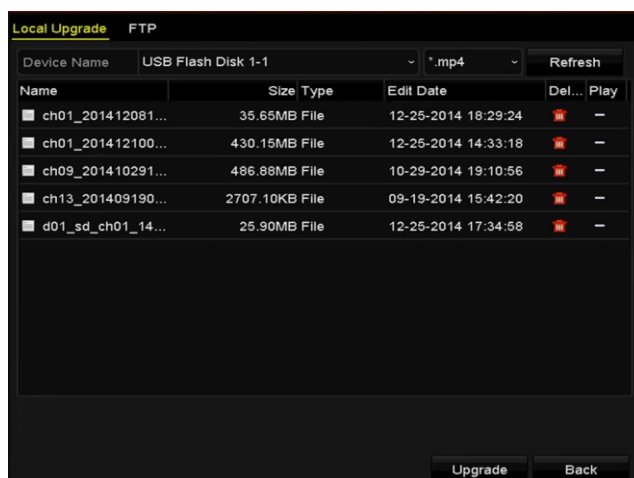

Figure 12-7 Local Upgrade Interface
Step 3 Click the **Local Upgrade** tab to enter the local upgrade menu, as shown in Figure 12-7.